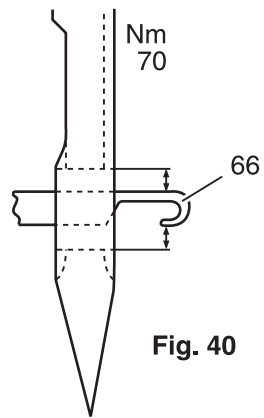

Fig. 40
With the threader key pushed fully down, prong 66 must pass through in the center between the top and bottom edge of the needle eye of a needle size Nm 70 (fig. 40).
- Push the complete threader bar frame 69 either upwards or downwards until prong 66 has the same clearance to the top and bottom edge of the needle eye (fig. 40).